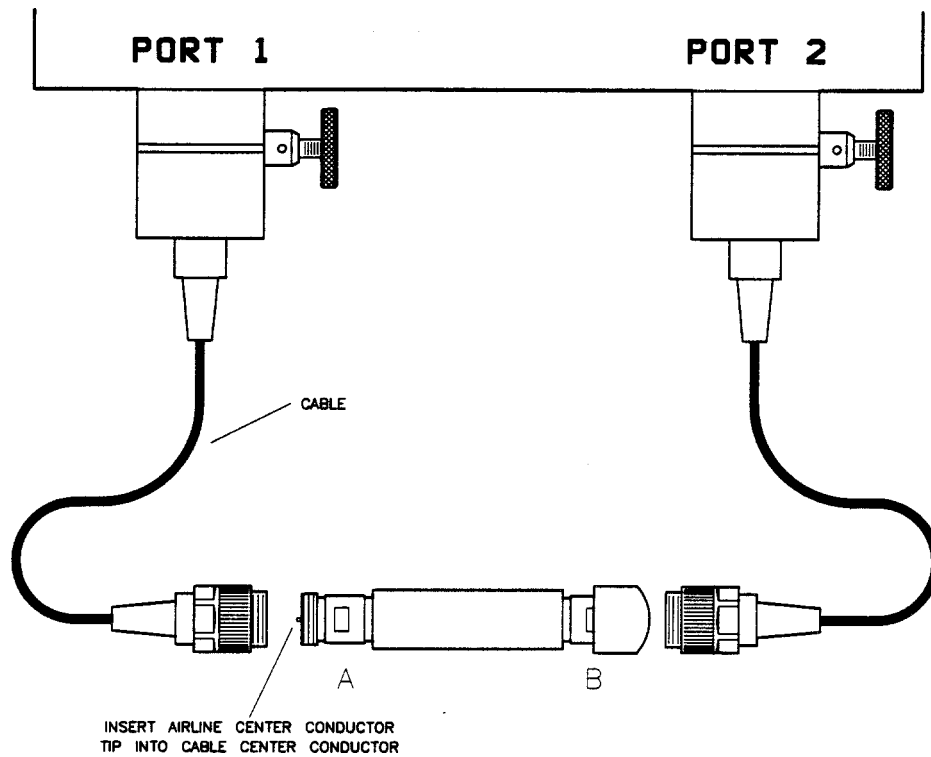

Figure 4-8. Connecting the Airline
5. Insert the tip of the center conductor (emerging from the “A” end) into the cable center conductor Figure 4-8. Mate the outer conductors of the airline and port 1 cable connector finger tight.